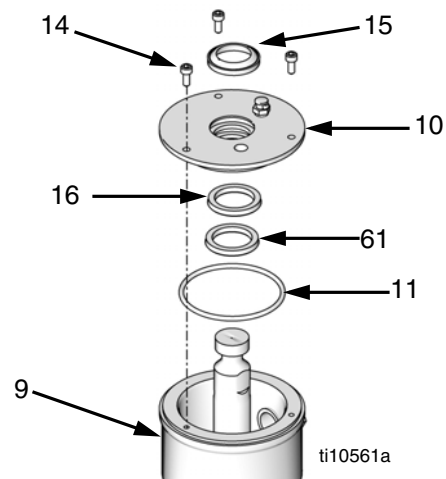

FIG. 5
- On displacement pumps with enclosed wet cups (9), use an M4 hex wrench to remove the three screws (14) from wet cup cover (10) and remove cover. Drain and clean out the wet cup (9). See FIG. 5.
- On displacement pumps with enclosed wet cups (9), use o-ring pick to remove o-ring (11), and a flat head screwdriver to remove snap ring (61), wiper (15), and seal (16).